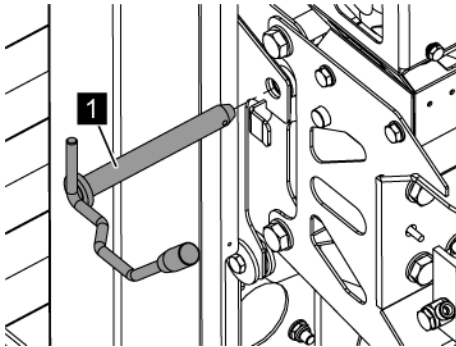

Fig. 157: Inserting the basket bolt
2. Insert the basket bolt (Fig. 157/1).